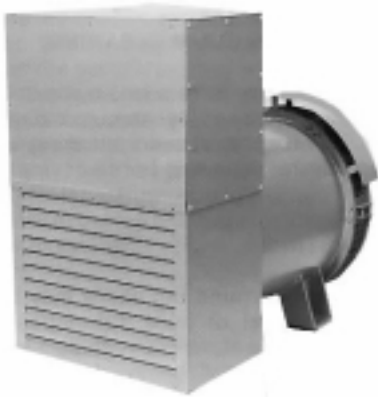

Figure 6-1
1. Remove conduit box covers (Figure 6-1 and 6-2)